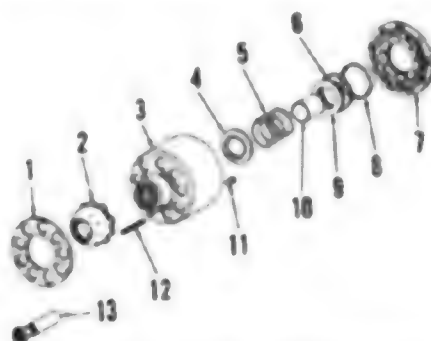

Fig. 123—Exploded view of hydrostatic pump or motor.
To disassemble the pump or motor, grasp outer diameter of slipper retainer (1—Fig. 123) and remove retainer with nine pistons (13). Remove ball guide (2) and withdraw six slipper retainer springs (12). Place cylinder block in a press on wooden blocks. Using a step plate on spring retainer (9), apply pressure to compress spring (5). Remove retaining ring (6), release press and remove spring retainer (9), spring (5) and spring seat (4).
To adjust the input shaft bearings, press front and rear bearings on input shaft until bearings are seated. Install the center section with bearing cups installed and tighten retaining cap screws to a torque of 110 ft.-lbs. Rotate hydrostatic drive housing until front end is pointing upward. Place the input shaft in position. Pull the bearing cup from the charge pump housing and remove any shims present. Place 0.100 inch thickness of shims in bearing bore of charge pump, then press bearing cup into place. Place charge pump over the input shaft and install three equally spaced  $\frac{1}{4}$  x 1 inch NC cap screws. Do not use the special "Nylor" cap screws. Tighten the three cap screws evenly to a torque of 25 in.-lbs. while rotating the shaft. Then, without rotating the shaft, torque the cap screws to 50 in.-lbs. Carefully measure the gap beside each of the three cap screws. The average gap measured should be added to 0.020 inch, then subtracted from the 0.100 inch. This will give the correct shim pack to be used. Example: Gap measured 0.045 inch plus 0.020 inch equals 0.065 inch. Subtract 0.065 inch from 0.100 inch for a shim pack of 0.035 inch. Unbolt and remove charge pump, remove bearing cup and 0.100 inch thick shim pack. Install the determined shim pack and press bearing cup into position. Shims are available in thicknesses of 0.005, 0.007 and 0.020 inch. Reinstall charge pump and tighten five retaining cap screws to a torque of 35 ft.-lbs. Using a dial indicator, check input shaft end play which should be 0.001-0.011 inch. Remove charge pump and input shaft and remove input shaft rear bearing. Install input shaft and swashplate with thrust plate on pump by reversing the removal procedure. Position the horseshoe tool between pto drive gear and swashplate with open side of tool opposite from the servo attaching ears on swashplate. With spring guide (10 - Fig. 123) and centering ring (8) installed, press input shaft rear bearing into position. Wrap assembly in clean paper and lay aside for later reassembly.
housing to upright position and install output shaft assembly. Install upper right and lower left bearing housing cap screws and tighten them evenly to a torque of 25 in.-lbs. while rotating the shaft. Then, without rotating the shaft, torque the two cap screws to 50 in.-lbs. Using a feeler gage, carefully measure the gap between bearing housing and hydrostatic drive housing adjacent to the two cap screws. Subtract the average gap from 0.200 inch which will give the correct retaining ring thickness plus or minus 0.002 inch. For example: If average measured gap is 0.035 inch, subtract 0.035 inch from 0.200 inch which will give 0.165 inch as the correct retaining ring thickness. Remove output shaft assembly and install retaining ring of correct thickness. Retaining rings are available in a range of thicknesses from 0.136 to 0.186 inch in increments of 0.005 inch. Reinstall output shaft assembly and tighten the five bearing housing cap screws to a torque of 35 ft.-lbs. Using a dial indicator, check output shaft end play which should be 0.002-0.008 inch. Remove output shaft assembly and remove front bearing from the shaft. Install output shaft and swashplate with thrust plate on motor by reversing the removal procedure. With spring guide (10 - Fig. 123) and bearing plate centering ring (8) installed, press output shaft front bearing into position. Wrap assembly in clean paper and lay it aside for later reassembly.